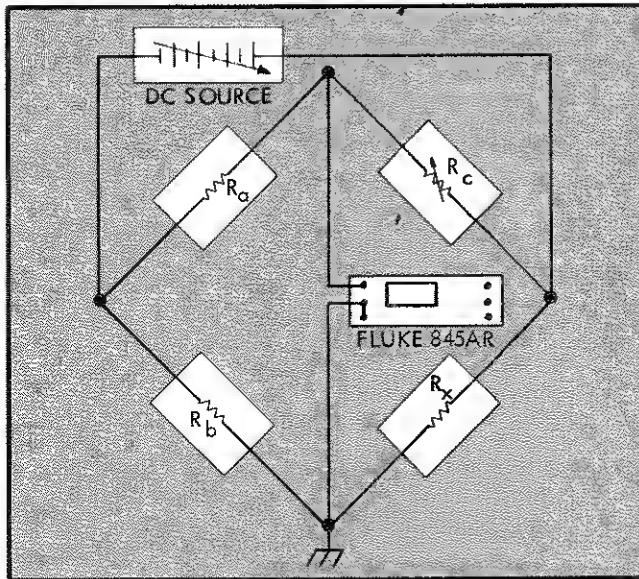

Figure 2-2. BRIDGE DETECTOR - FLOATING SUPPLY
various types of null detector configurations are illustrated by Figure 2-2 through 2-4. To operate the Model 845AR as a Null Detector, perform the preliminary operations according to paragraph 2-5 and proceed as follows:
a. Select the desired equipment application as illustrated by Figure 2-2 through 2-4 and make the appropriate equipment connections.